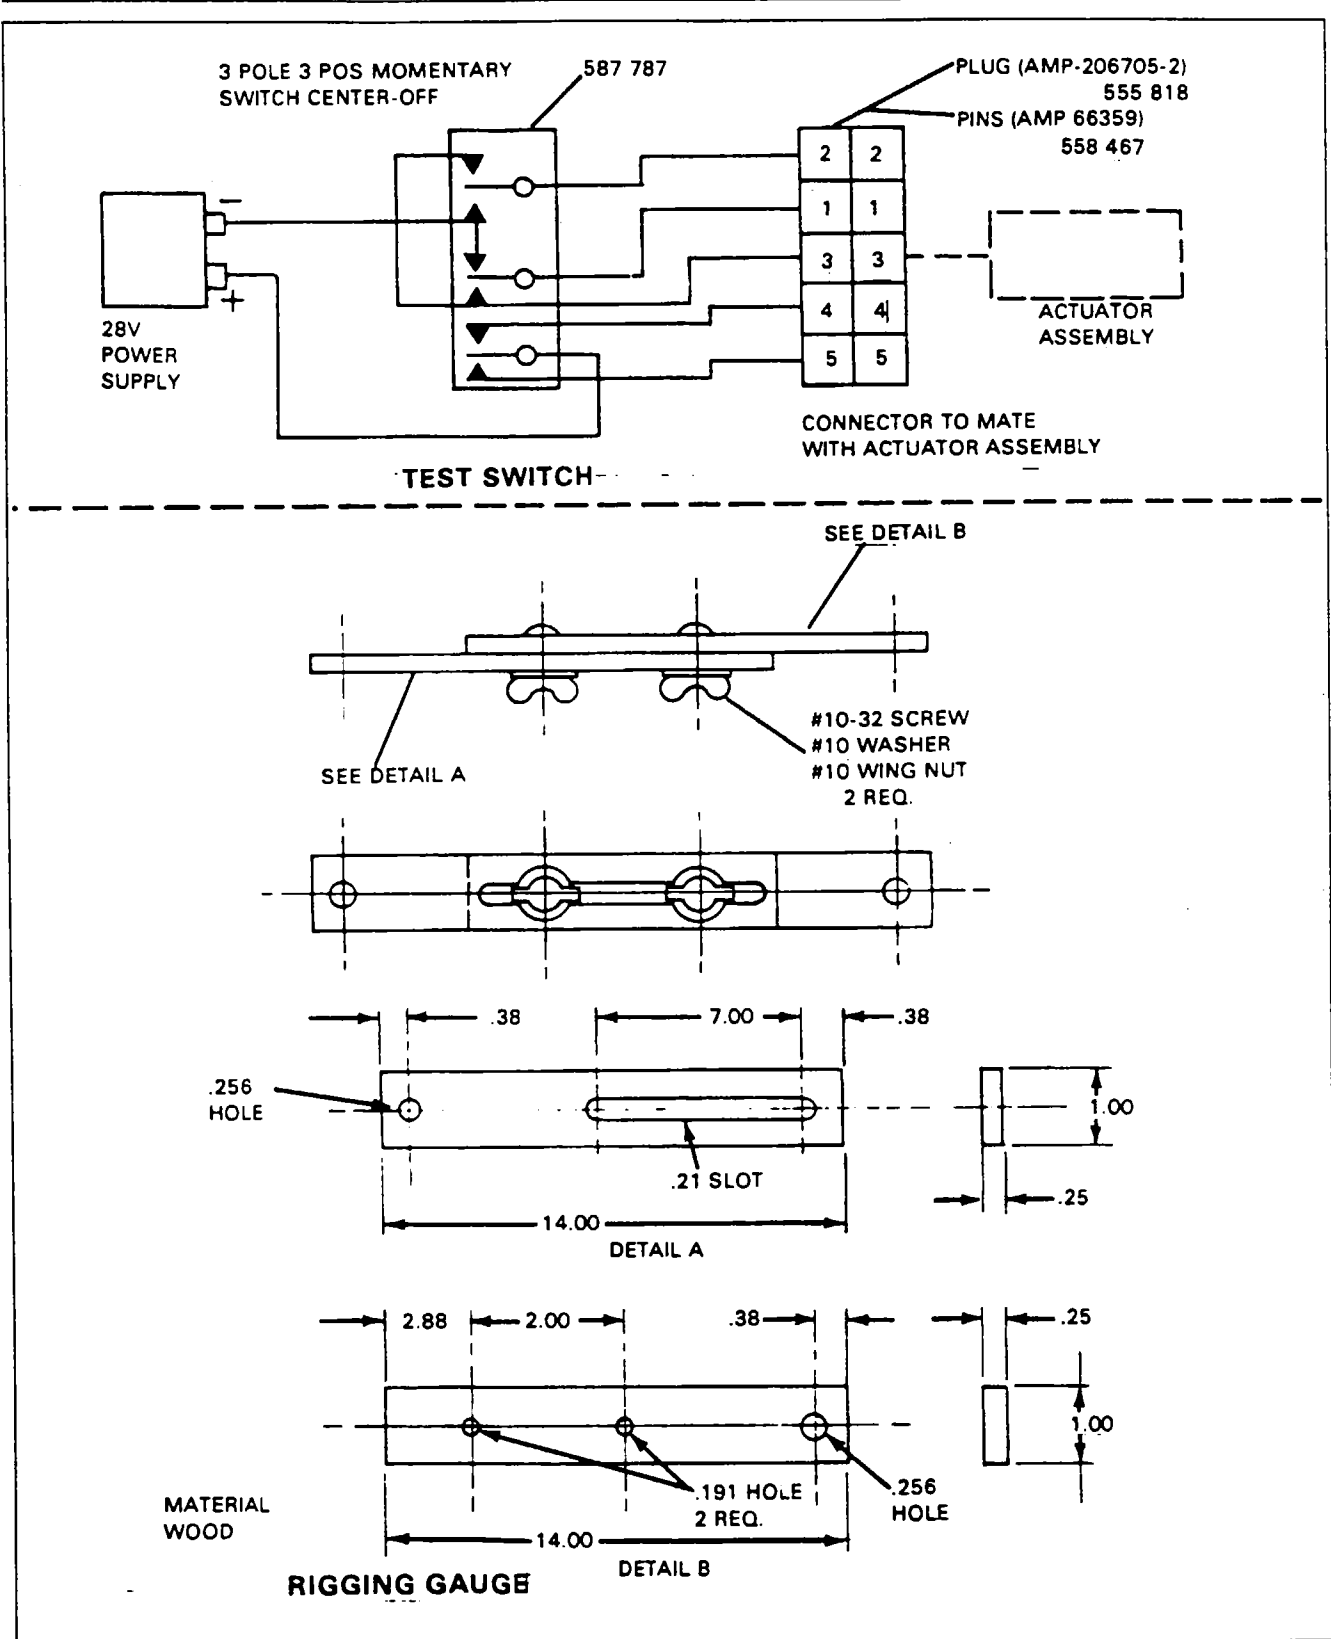

Figure 30-16a. Special Equipment for Rigging Inertial Separator Doors
- A. Fabricate a "Length Rigging Gauge" per information given in Figure 30-16a, and a "Test Harness and Connector" per Figure 30-16a.